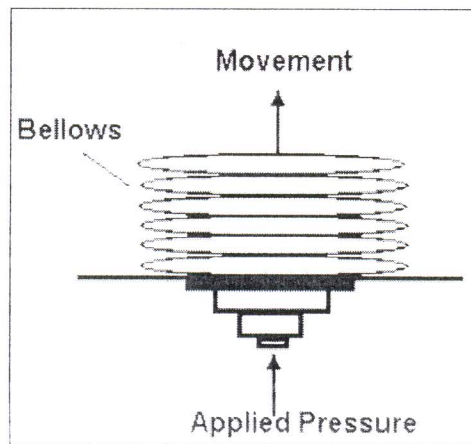

Figure 2 : Pressure sensor
- (d) State **three (3)** function of using an Op-Amp circuit. (3 marks)
- (e) **Figure 2** shows one type of pressure sensor. Name the sensor and describe its functionality. (4 marks)